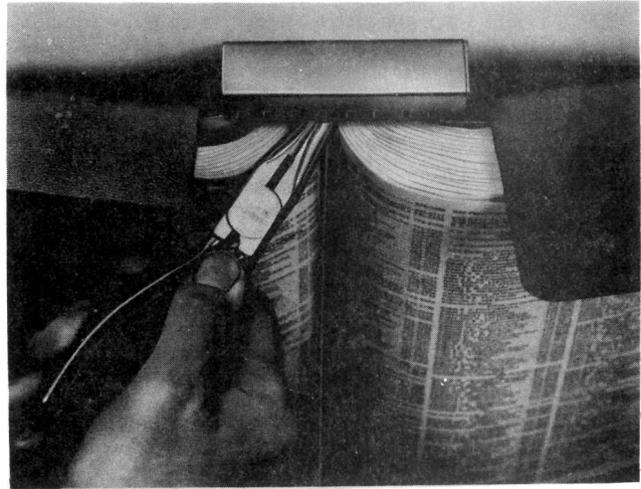

Fig. 28—▶Removing KS-21435, List 11 Support Rod◀
3.26 Rod cannot be removed by hand. Twist rod with long-nosed pliers releases the rod from the detent. Pull rod upward for removal (Fig. 28).